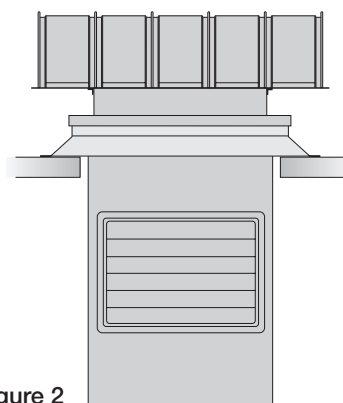

Figure 2
4. The hood and plenum are secured to the roof curb. (Figure 2)